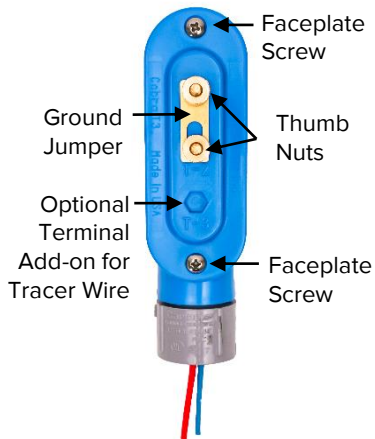

Fig. 1 (Front of faceplate)
1. Loosen and remove screws on front of the faceplate (Fig 1).
3. Slightly loosen the thumb nuts on the front of the faceplate (Fig 1).
9. Position the faceplate on the housing and secure by tightening the faceplate screws (Fig 1).
10. On the front of the faceplate, make sure the terminal jumper is connecting the tracer wire terminal to the ground rod terminal (Fig 1).